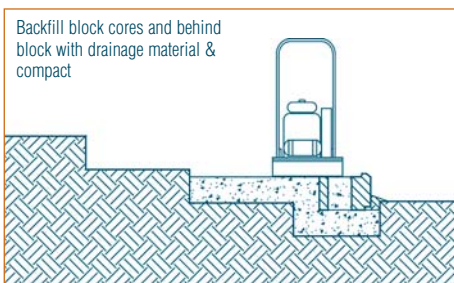

Figure 20: Step 3
- Rake drainage material smooth and compact with the first pass of the compactor directly on the tops of the block and then working in a path that runs parallel to the block (figure 20).